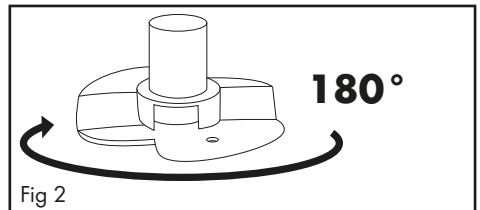
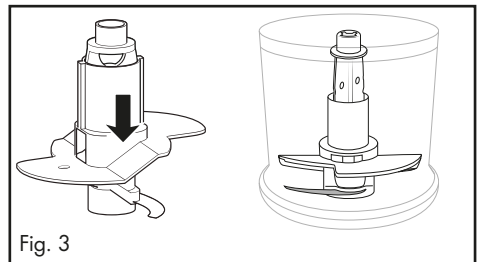

Fig 2
Fig. 3
- For 200 ml of cream, turn the whisk attachment **11** horizontally by 180° (fig. 2), so that it is in contact with only one blade **8** and clicks into place (fig. 3). It then churns higher through the cream.